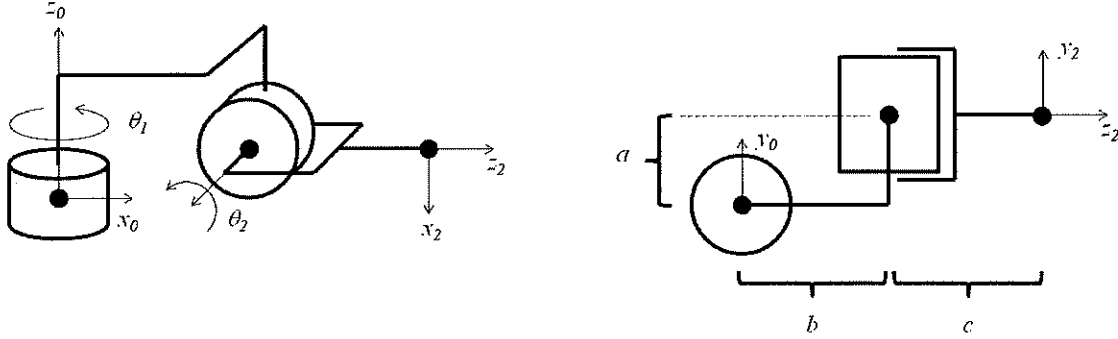

Figure 1: Left: Front view of arm. Right: Top-down view of arm. In this figure, all joint angles are shown at 0° .
1. Consider the RR arm shown in Figure 1.